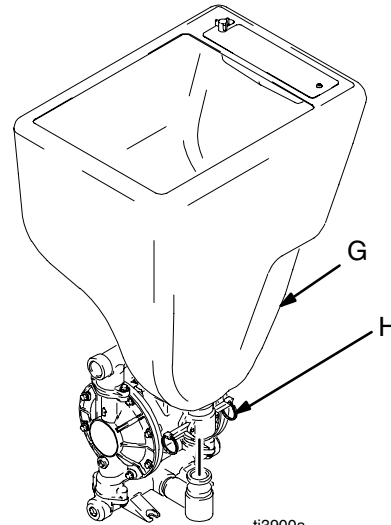

Fig. 2
2. Secure latches by pushing each one up and firmly into locked position. See Fig. 2.